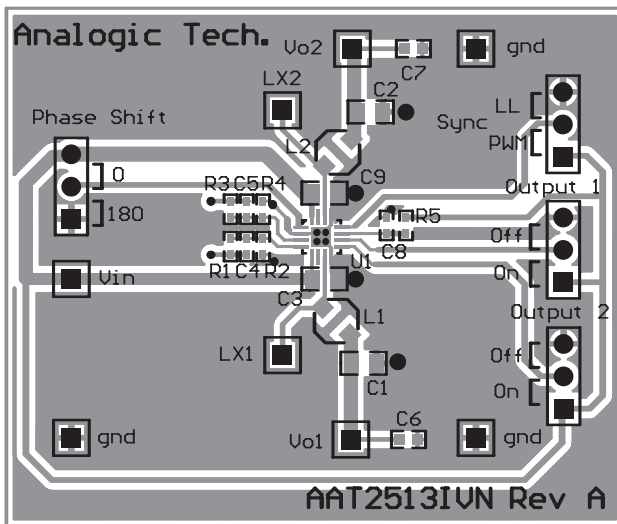

Figure 3: AAT2513 Evaluation Board Top Side.
1. Due to the pin placement of  $V_{IN}$  for both converters, proper decoupling is not possible with just one input capacitor. The input capacitors C3 and C9 should connect as closely as possible to the respective VIN and GND as shown in Figure 3.